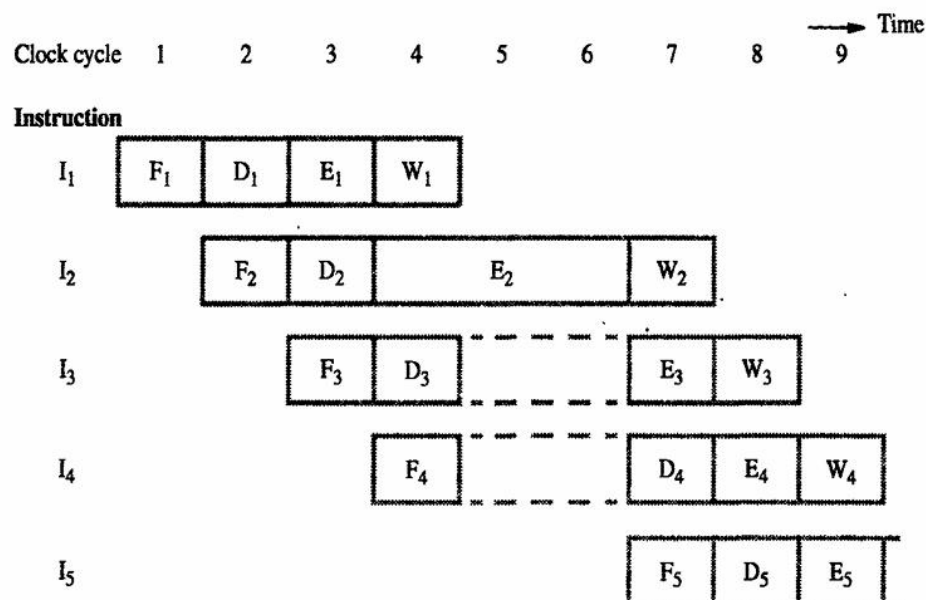

Figure 8.3 Effect of an execution operation taking more than one clock cycle.
- The pipelined operation shown in **Figure 8.3** is said to be **stalled for two clock cycles**.